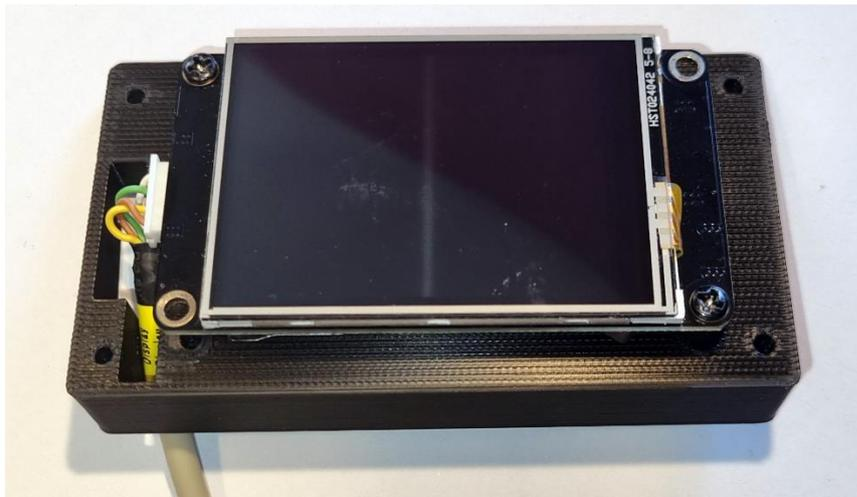

Fig. 6.7
- Install the DISPLAY CABLE in the display case and plug in the "Display" end of the cable into the screen plug. (fig. 6.7)